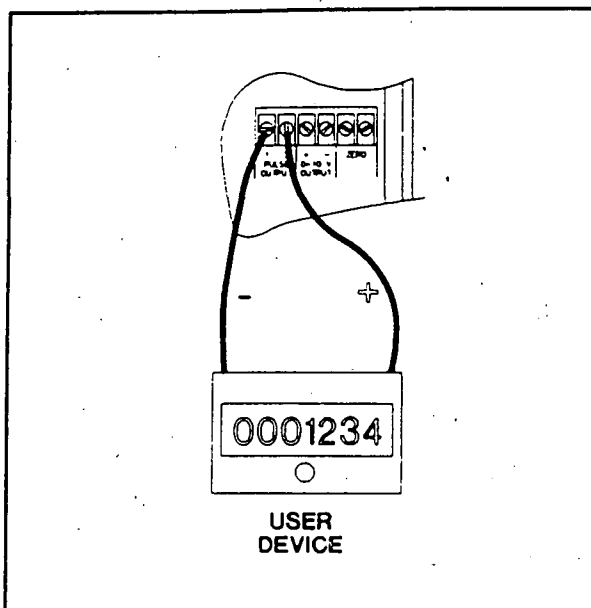

Figure 8-2
5. If the flowmeter is equipped with a Proportional Sampler board (Figure 8-2), remove the board from the second slot from the left side of the flowmeter (Figure 4-3) to gain access to the thermostat mounting hole on the chassis.
12. If the flowmeter is equipped with a Proportional Sampler board (Figure 8-2), replace the board in the second slot from the left side of the flowmeter (Figure 4-3).